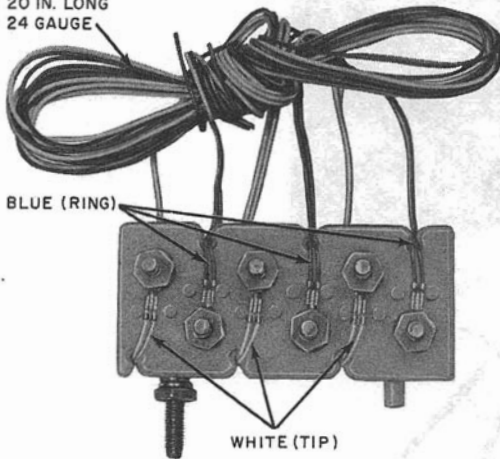
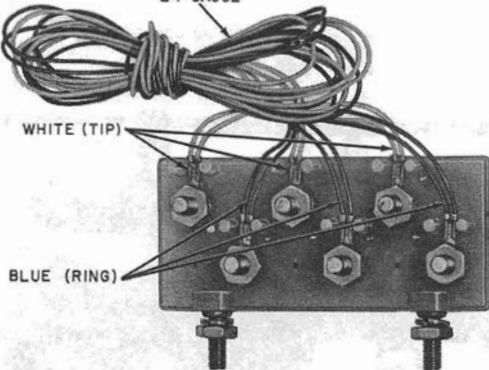

Fig. 21—3A4-3 Terminal Block
Fig. 22—3A3-3 Terminal Block
- 3.06** The 3A4-3 terminal block (Fig. 21) replaces the 3A3-2 and 3A3-3 (Fig. 22) terminal blocks for use in the 49-type cable terminal. The 3A3-2 and 3A3-3 terminal blocks will be rated manufacture discontinued (MD).